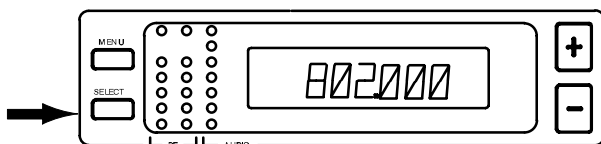

FIGURE 18
3. Press the SELECT button. The current operating frequency displays, as shown in Figure 18.